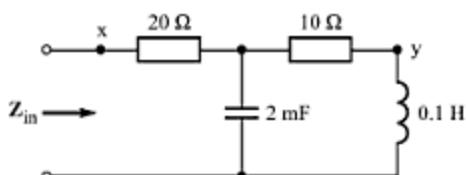

Fig. C-47
- C-44.** If  $\omega = 100 \text{ rad/s}$  in the circuit shown in Fig. C-47, find (a)  $Z_{in}$ , and (b)  $Z_{in}$  if a short circuit is connected between  $x$  and  $y$ .